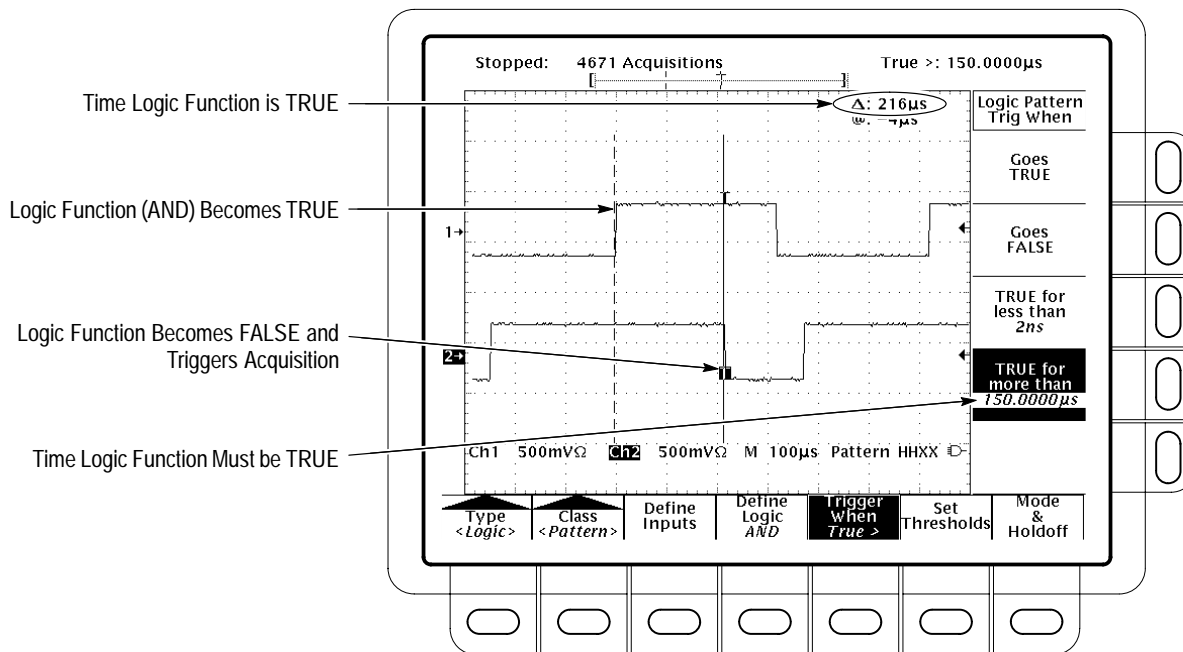

Figure 3–37: Logic Trigger Menu — Time Qualified TRUE
Note the position of the trigger indicator in Figure 3–37. Triggering occurs at the point the logic function you specify is determined to be true within the time you specify. The digitizing oscilloscope determines the trigger point in the following manner:
In Figure 3–37, the delay between the vertical bar cursors is the time the logic function is TRUE. Since this time is more (216  $\mu$ s) than that set in the True for more than menu item (150  $\mu$ s), the oscilloscope issues the trigger at that point, not at the point at which it has been true for 216  $\mu$ s.